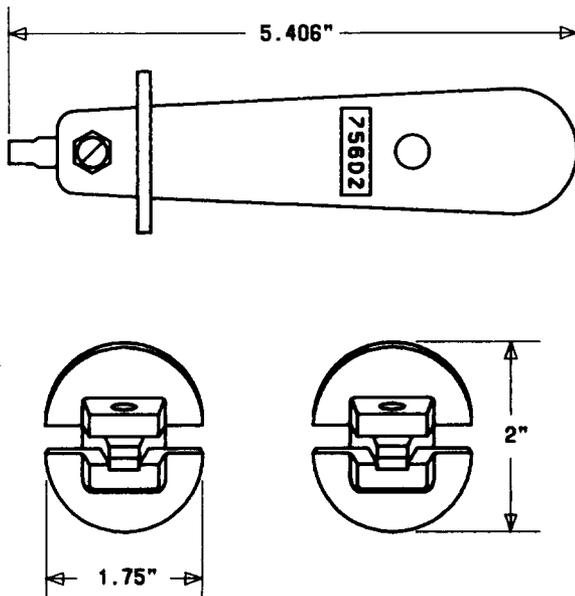

Fig. 5—756D2 Inserter Tool
**2.05 756D2:** The 756D2 inserter tool (Fig. 5) consists of a plastic handle, an insulated blade, and associated hardware. The tool is used in seating 22 American Wire Gauge (AWG) Irradiated Polyvinyl Chloride (IPVC) wire in both single slip terminals and in quick connect terminals welded assemblies in 78A and 78B connecting blocks on the ESS† switching equipment.♦